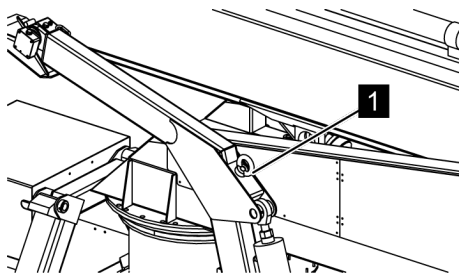

Fig. 38: Attachment point outriggers
3. → Attach belts or chains with shackles to all four attachment points (Fig. 38/1) of the outriggers.